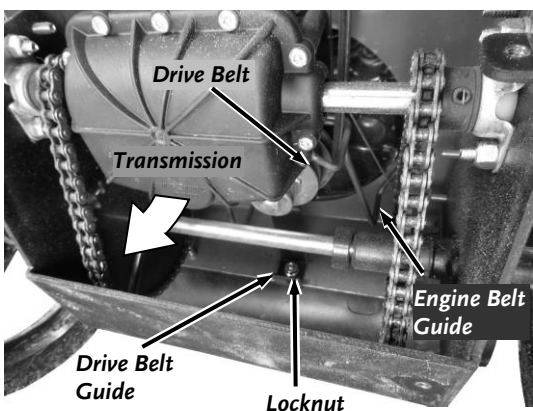

Figure 33
6. Loosen the Drive Belt Guide Locknut at the rear of the Frame using a 7/16" Socket w/Ratchet and rotate the Guide out of the way (**Figure 33**).